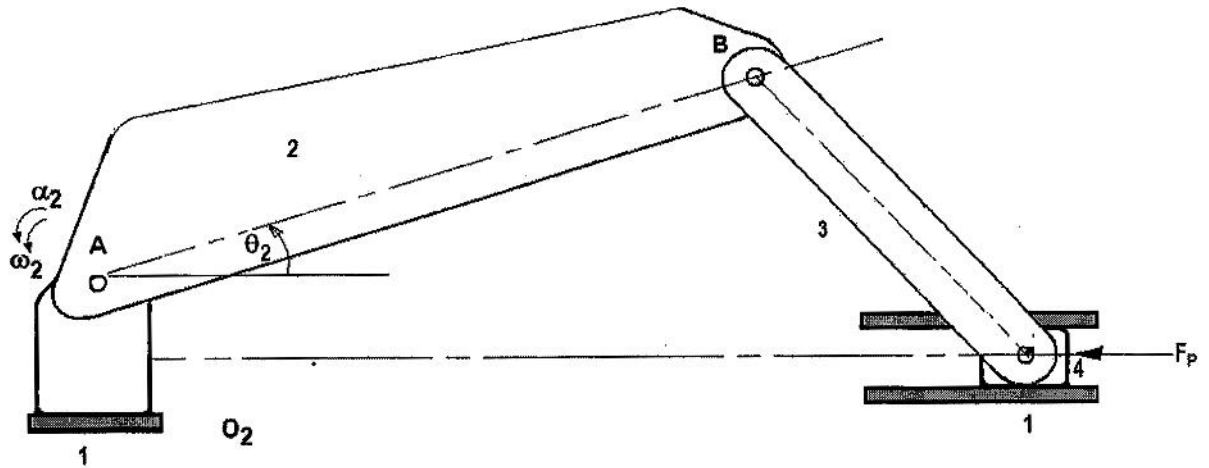

Fig.Q7
7. An offset slider crank mechanism is shown in Fig.Q7. If an external force F_p acts on the slider link 4, establish the matrix equation for determining the forces at the joints. Also find the driving torque needed on the crank 2 to obtain the specified acceleration. Assume μ as the coefficient of friction at sliding.